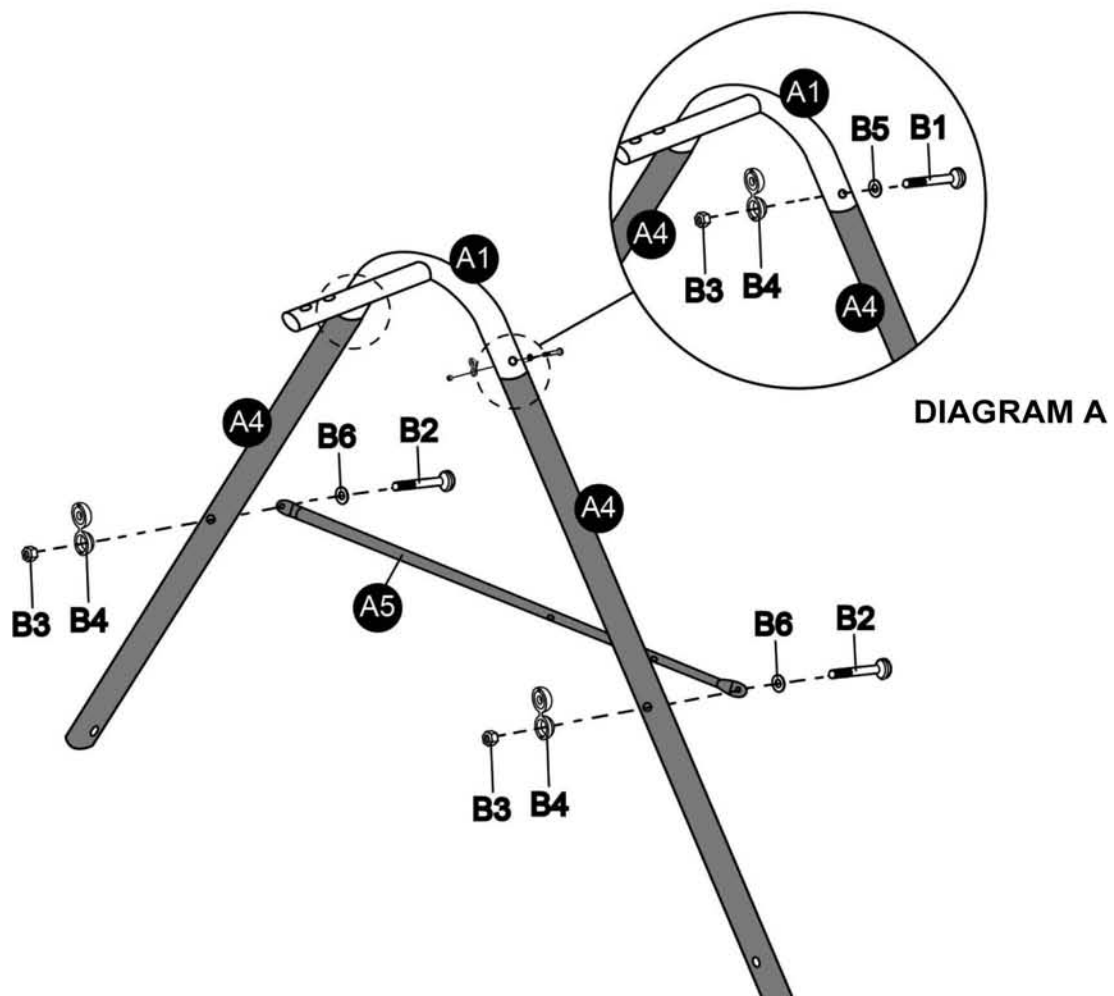

FIGURE 3
- Attach Cross Bar (A5) to Legs (A4) using B2, B6, B4 and B3 as shown in the FIGURE 3.